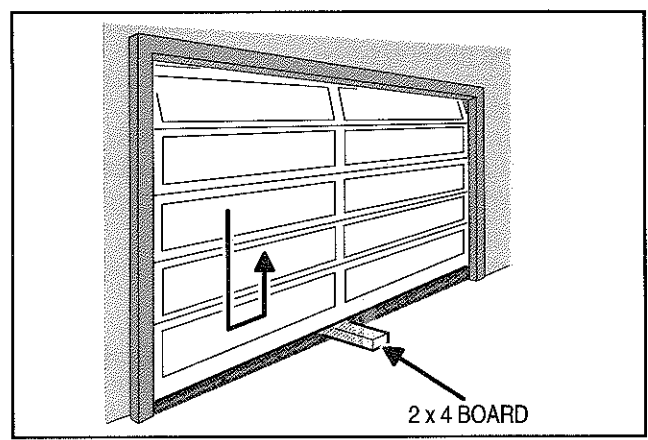

Figure 2 Checking safety reverse
- B** To test the safety reverse (**Figure 2**).